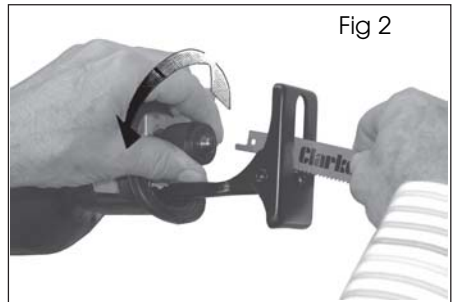

Fig 2
1. Hold the reciprocating saw as shown in fig 2.